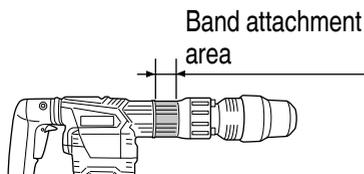

Fig. 2
- (2) Place the band over the band attachment area and fit the band's two holes onto the "T" portion of the handle bolt. (**Fig. 2, 3**)